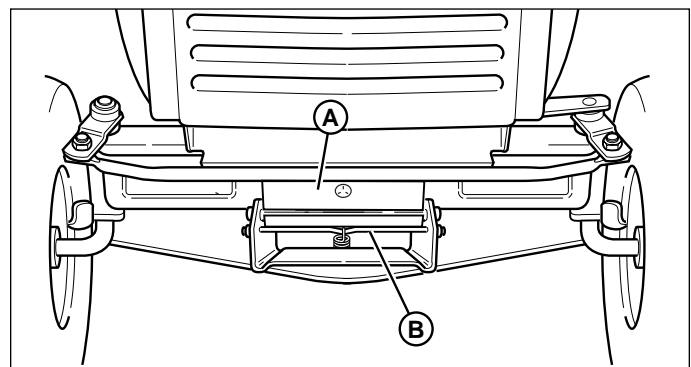

Figure 6. Mower Hitch
2. Move the transmission release lever up, pull back approximately 1", and press down to lock into released position (Figure 6).
8. Turn wheels straight ahead. Pull back on spring-loaded lever (B, Figure 6) and lift mower hitch off of the tractor bracket (A).
5. Pull the spring-loaded lever (B, Figure 6) forward, hook the mower hitch on the tractor bracket (A). Release the spring loaded lever to lock the mower hitch in the tractor bracket.